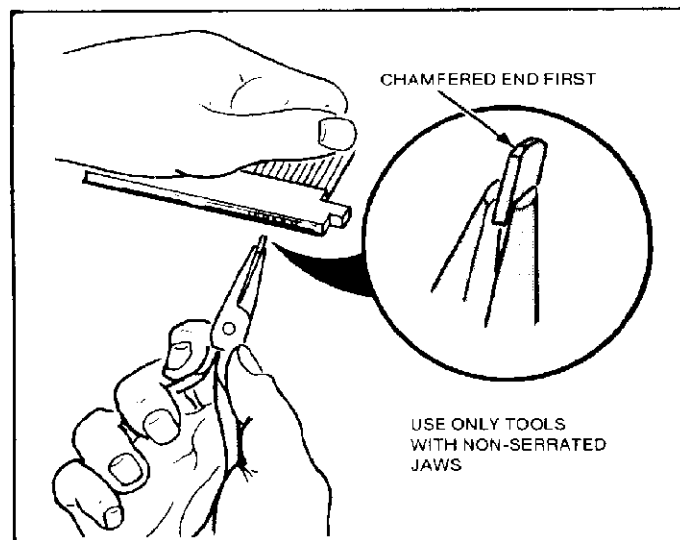

Figure 3
- (a) Insert polarizing key, chamfered end first, into desired connector cavity. Refer to Figure 3. Non-serrated tweezers or small needlenose pliers may be used for insertion and extraction.
- (c) To remove key, pull it from the connector using non-serrated tweezers or small needlenose pliers. Refer to Figure 3.
- (a) Insert polarizing key into connector. Non-serrated tweezers or small needlenose pliers may be used for insertion and extraction. Refer to Figure 3.